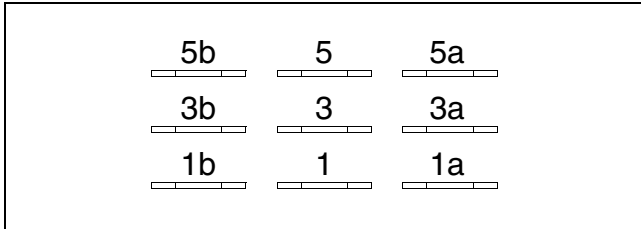
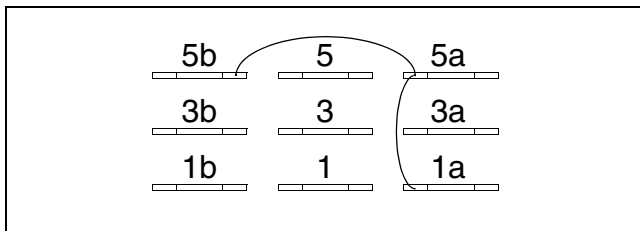

Figure 3
Figure 12
- 5. Install or remove jumpers to achieve the desired cycle time. *Figure 3 through Figure 12* illustrate the possible combinations.
Removing all the jumpers from 1a extends the cycle time, making it as long as possible. Refer to *Figure 3*.
This configuration shortens the prewash step from four minutes to two minutes and shortens the final spin time from four minutes to two minutes. Refer to *Figure 12*.